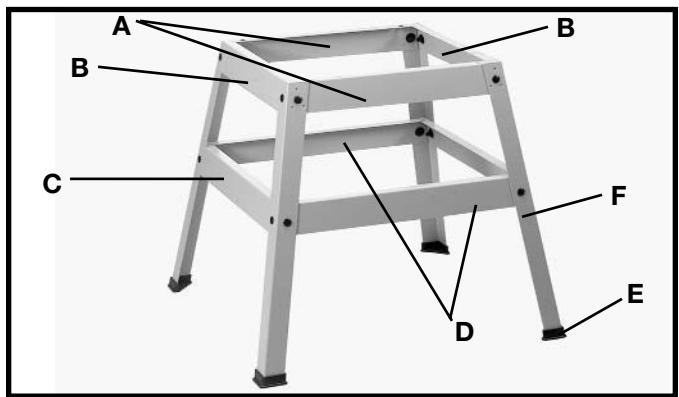

Fig. 29
1. Assemble the stand as shown in Fig. 29, using 16 M8x1.25x20mm carriage head bolts, 3/8" flat washers and M8x1.25 hex nuts. Align the holes in the stand legs (F) with the holes in the brackets. Insert the carriage head bolt through the hole in the leg and the hole in the bracket, place a flat washer on the carriage head bolt and thread a hex nut onto the carriage head bolt. Repeat this process for the 15 remaining holes in the legs and brackets. **NOTE: DO NOT COMPLETELY TIGHTEN THE HARDWARE AT THIS TIME.** Letters are stamped on the stand brackets for ease in assembly.
2. Assemble the rubber feet (E) Fig. 29, to the bottom of each leg (F) as shown. **NOTE:** Each rubber foot is provided with holes for mounting the stand to the floor surface if required.